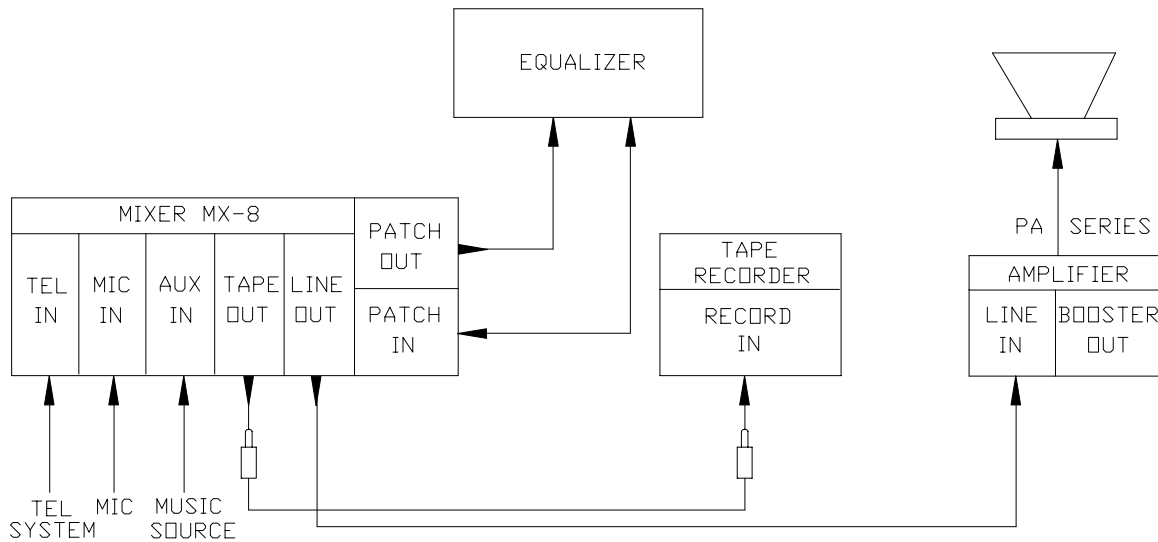

Figure 3: Connecting a Tape Recorder
11. TO CONNECT A TAPE RECORDER (SEE FIGURE 3):